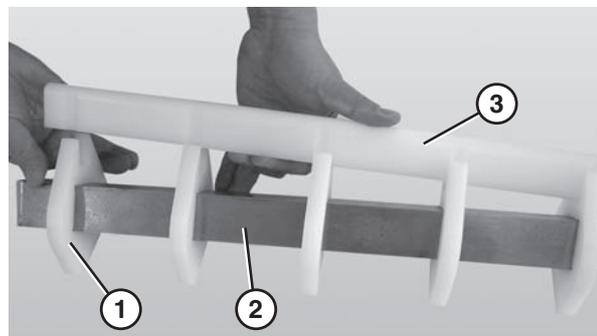

Figure 70
- Remove the nose bar wear strip (Figure 70, item 3).
- Slide the nose bar pucks (Figure 70, item 1) off the nose bar shaft (Figure 70, item 2).